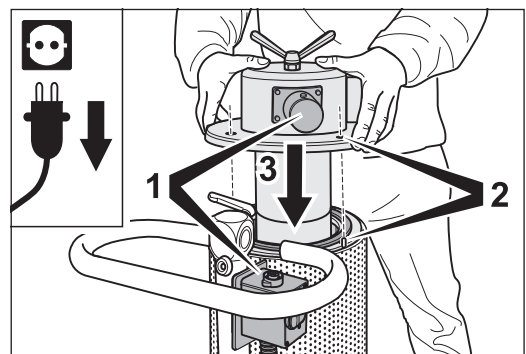

Fig. 72 Position the upper part of the separator (1 + 2) and insert it into the filter cartridge (3).
- 3 Now the upper part of the separator can be replaced (fig. 72). Insert the perforated metal into the upper part of the separator in such a way that it touches the inside of the ridge (fig. 73, 1).